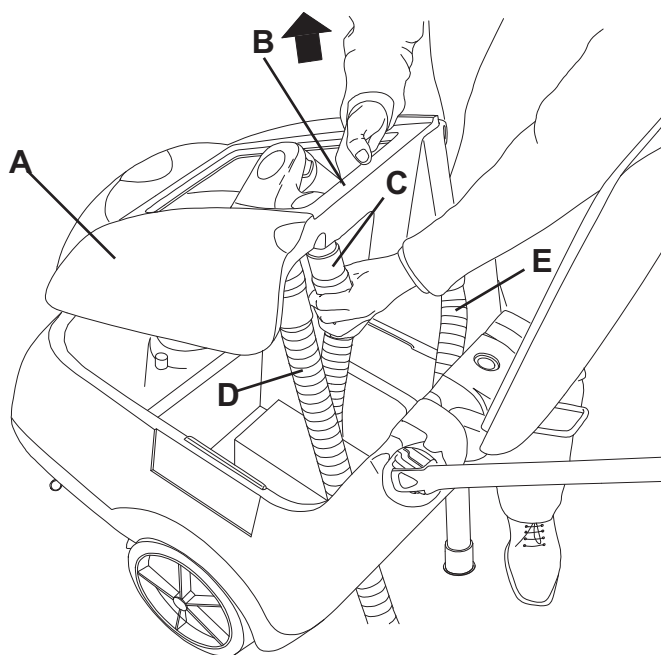

Figure 3
1. Empty the recovery tank (26) as shown in the relevant paragraph.
3. Make sure that the power supply cable (21) is disconnected from the electrical mains.
4. Disconnect the vacuum hose (22) from the squeegee (11).
5. Disconnect the recovery water drain hose (16) from the bracket (17).
6. Open the cover (6).
7. Grasp the recovery tank (A, Fig. 3) in the area (B) and slightly raise it.
8. Disconnect the vacuum hose (C) from the tank, then remove the tank (A) with the hoses (D) and (E).